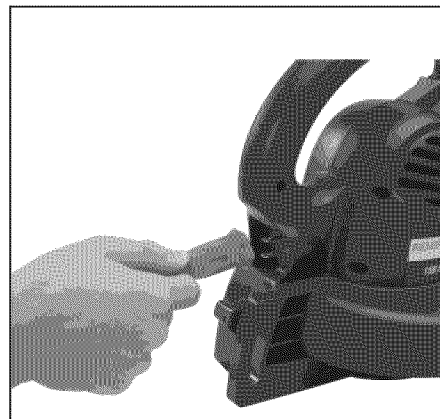

Figure 3 - Plugging extension cord into inlet plug
1. Plug extension cord into the inlet plug of appliance (See Figure 3).